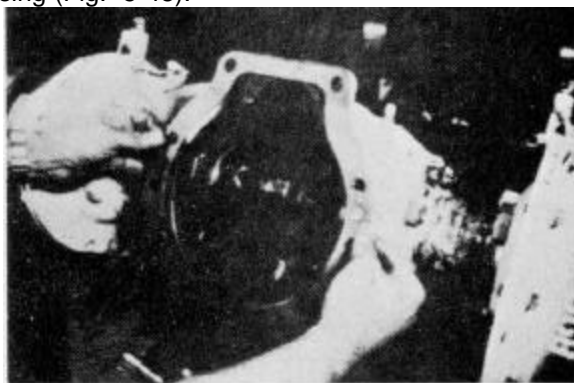

Figure 5-48
14. Remove the gasket/shims from the final drive housing (Fig. 5-48).